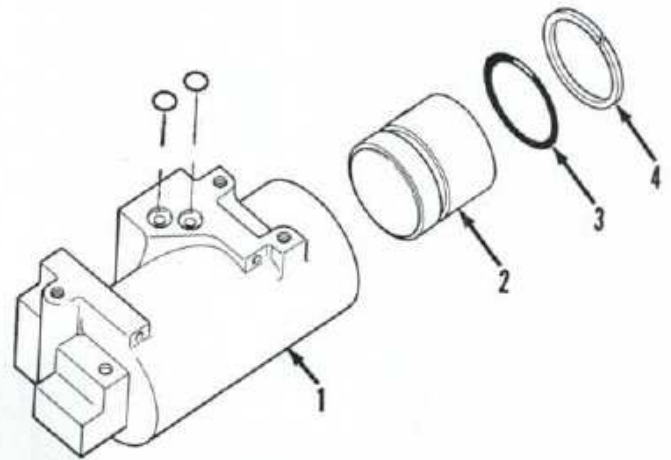
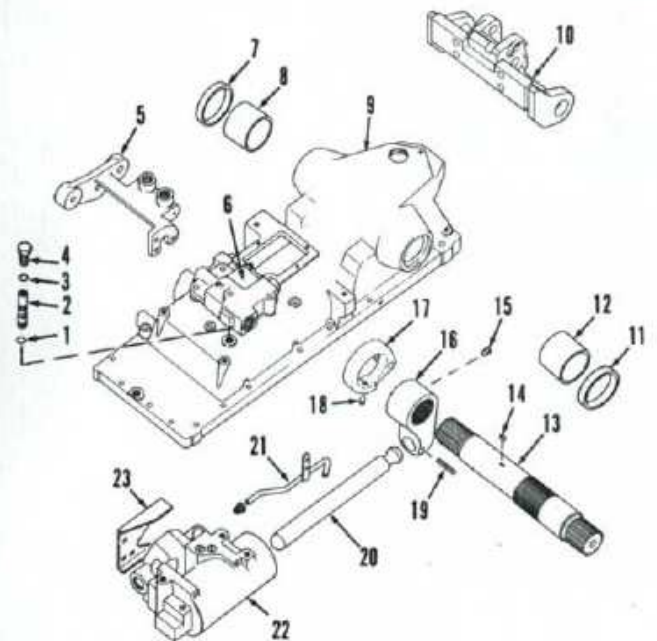
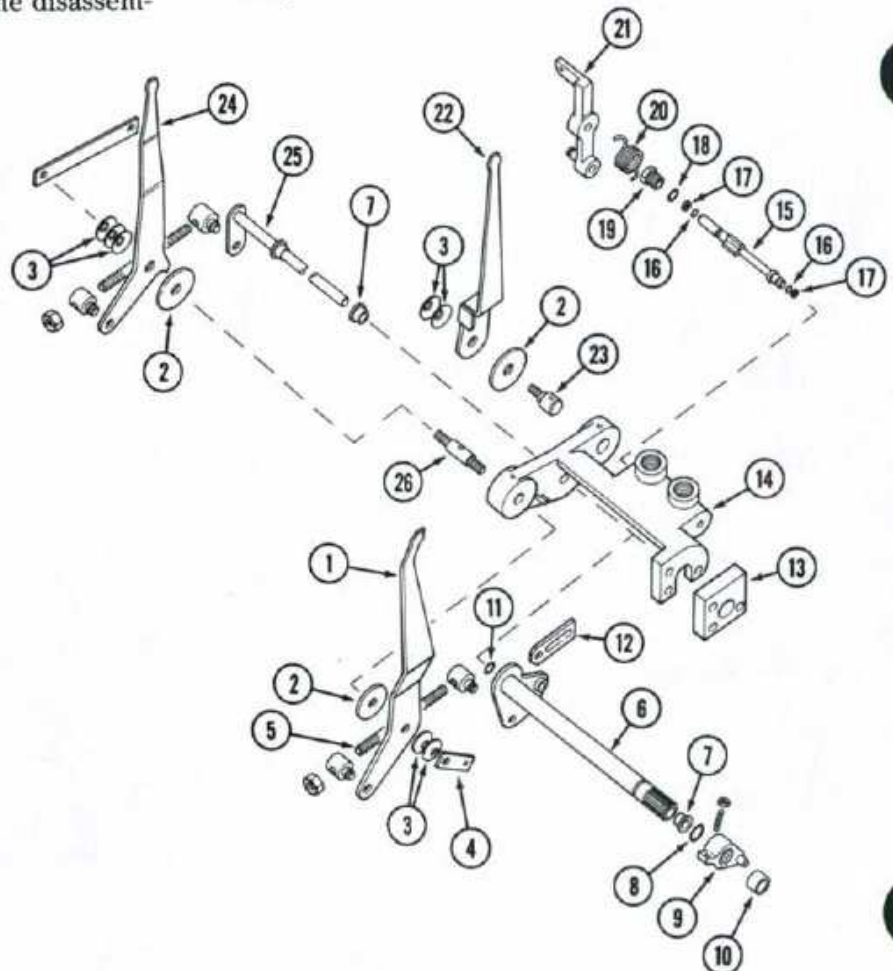

Fig. 166—Exploded view of work cylinder.
Fig. 167—View of hydraulic lift housing and relative components.
Fig. 168—Exploded view of typical raise rate valve and control lever arrangement.
If not already removed, remove cushion (safety) valve (2—Fig. 167) from cylinder (1—Fig. 166). The cushion relief (safety) valve is set at the factory to 2500 psi (17238 kPa). Do not attempt to disassemble or adjust this valve. Bump cylinder (1) on a block of wood and move piston (2) to open end of cylinder. Remove piston (2) with "O" ring (3) and back-up ring (4) from cylinder. Inspect piston and cylinder bore for
Use all new "O" rings and reassemble action valve and control valve to cylinder, then reinstall the cylinder and valve assembly into lift housing (9—Fig. 167). Cushion relief (safety) valve (2) can be installed in cylinder through hole in lift housing. Reinstall lift housing as outlined in paragraph 137 or 138.
**140. R&R AND OVERHAUL.** To remove the raise rate valve (5—Fig. 167), first remove hydraulic lift housing as outlined in paragraph 137 or 138. Disconnect adjusting rods (5—Fig. 168) from control shafts. Disconnect internal linkage as necessary and remove draft control shaft (25) and position control shaft (6). Unbolt and remove raise rate valve assembly. Remove adjusting arm (21), return spring (20) and plug (19) with "O" ring (18). Remove valve spool (15) with "O" rings (16) and back-up rings (17). Inspect raise rate valve spool and bore in valve body for scoring or excessive wear and renew parts as required.
**141. REMOVE AND REINSTALL.** To remove the rockshaft (13—Fig. 167), first remove hydraulic lift housing as in paragraph 137 or 138. Then, remove work cylinder and valve assembly as in paragraph 139. Disconnect and remove sensing linkage as required. Disconnect link from actuating hub (17). Remove retaining bolts and washers from both ends of rockshaft. Place marks on lift arms in alignment with timing marks on ends of rockshaft. Remove both lift arms. Loosen set screw (15) in bell crank (16). Loosen set screw (18) in actuating hub (17). Slide actuating hub off the Woodruff key (14) and remove the key. Pull rockshaft (13) out left side of housing and remove actuating hub and bell crank. Remove oil seals (7 and 11) and bushings (8 and 12) as required.